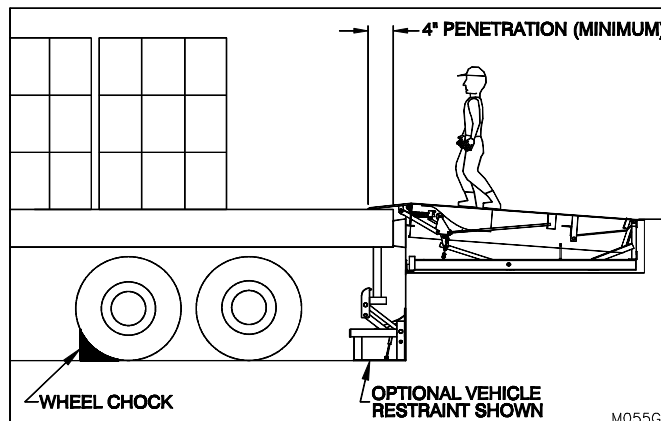

Figure 23: 4" Penetration
3. Walk out onto the front edge of the deck, lowering it until the lip rests firmly on the truck bed with at least 4" of penetration. (See Figure 23: 4" Penetration on page 16)
Note: The lip must extend a minimum of 4" onto the truck bed. (See Figure 23: 4" Penetration on page 16)